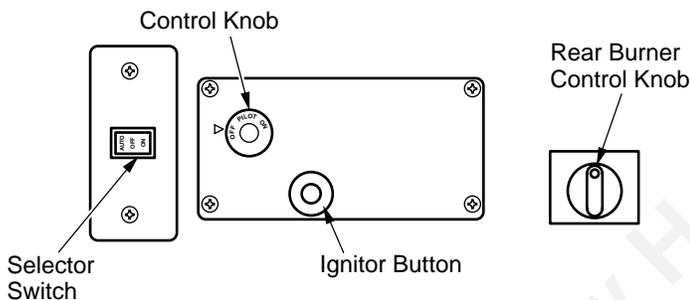

Figure 31 - Control Knobs and Ignitor Button Locations (Shown as Supplied, No Remote Control Operation)
5. Wait five (5) minutes to clear out any gas. Then smell for gas, including near the floor. If you smell gas, **STOP!** Follow "B" in the safety information, column 1. If you don't smell gas, go to the next step.
6. Press in and turn control knob counterclockwise  to the PILOT position. Press in control knob for five (5) seconds (see Figure 31, page 20).